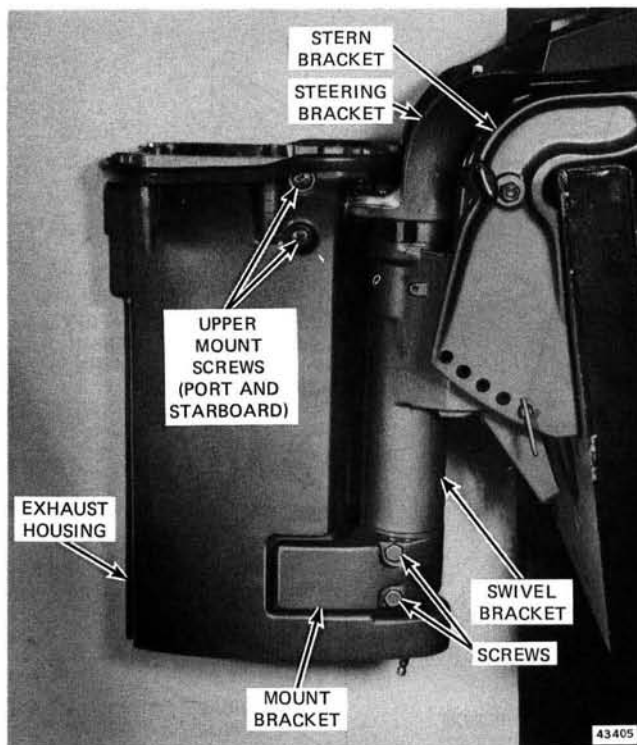
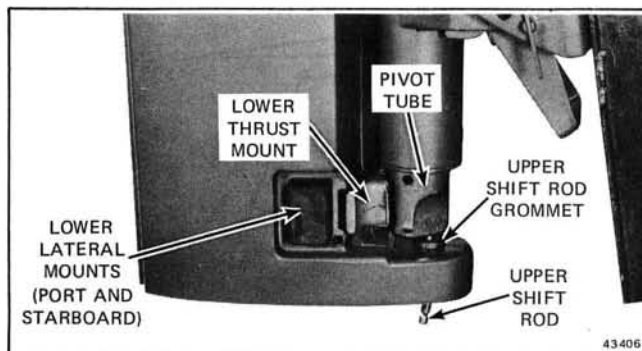
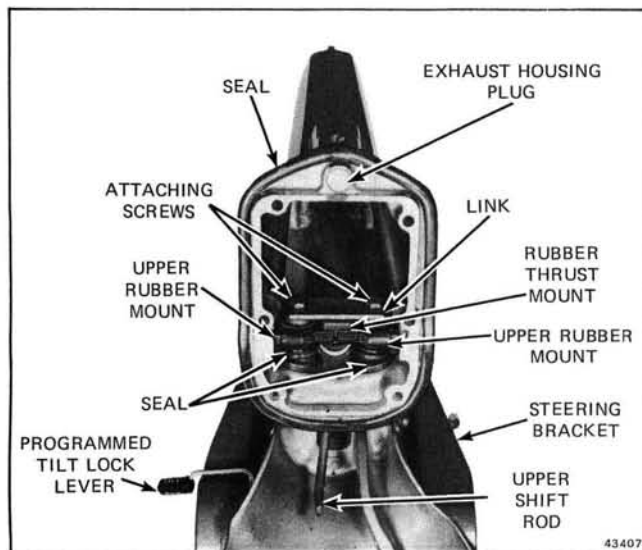

Figure 6-8. Lower Mount Bracket Screws
Figure 6-9. Lower Mounts
Figure 6-10. Upper Mounts
6. Remove two lower mounting bracket screws and port and starboard mount brackets. See Figure 6-8. Remove lower lateral and thrust mounts. See Figure 6-9. Inspect for wear and replace if necessary.
7. Remove two screws and upper mount link. See Figure 6-10. This will free exhaust housing from steering bracket. Rubber mounts can be removed from inside of exhaust housing by removal of two screws port and starboard. See Figure 6-8.
7. Inspect exhaust housing plug for leakage. See Figure 6-10. If leakage is evident, remove plug and clean carbon from exhaust relief passage and outlet. Reseal with Gasoila (Part Number 200763) varnish.
Using extreme caution, install two screws. Be careful not to pinch or tear seal. See Figure 6-10.